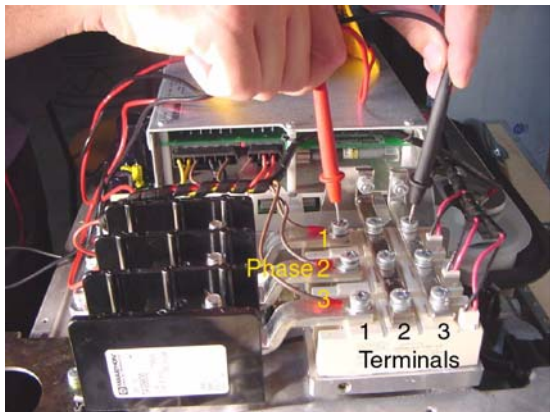

Figure 4-37 Verifying the Rectifier (2 of 2)
- Place the red (+) probe on phase 1 of terminal 1, and the black (-) probe on terminal 3, as shown in Figure 4-37. The measured value should be infinite.